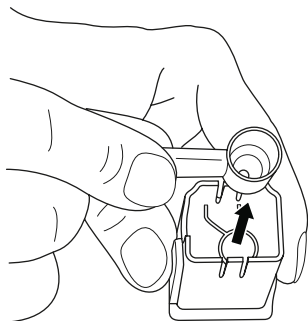

Fig. 10: Removing the milk foaming nozzle
6. Pull the milk foamer nozzle on the connection for the supply out of the coffee-milk dispenser towards the top (Fig. 10).